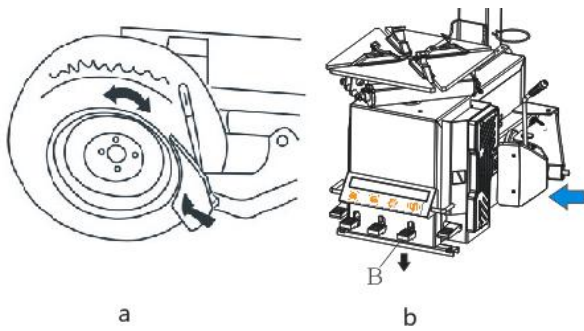

Fig.13
- Place the tire between the bead breaker shoe and rubber pad and keep the shovel between the bead and rim, about 1cm to the bead (Fig.13-a). Depress pedal B (Fig.13-b) to separate the tire from rim.